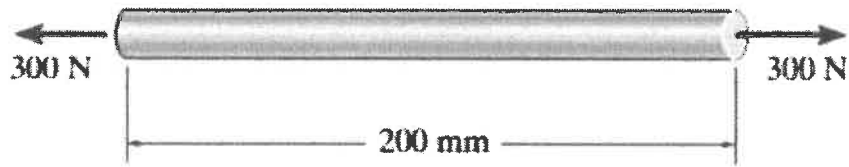

Figure 11: Tensional Acrylic Plastic
*Refer Below - Figure11 : Tensional Acrylic Plastic .*